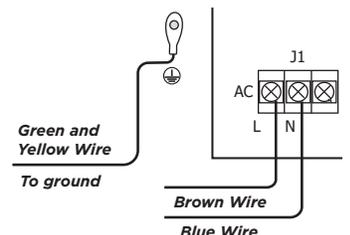

Figure 3: AC Terminals and Wires
2. Connect the AC power wires to the terminal block. See Figure 3.